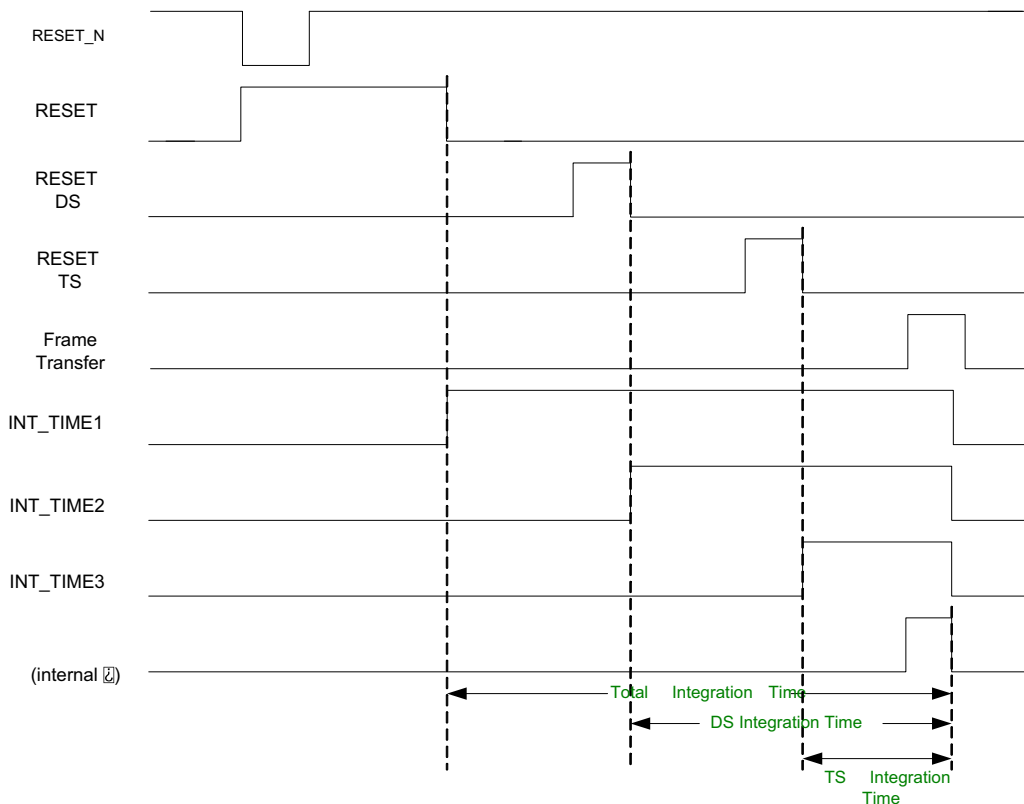

**Figure 15. Integration Timing in Master Mode**
In mastermode the integration time, the dual slope (DS) integration time, and triple slope (TS) integration time are set by the SPI settings. Figure 15 shows the integration timing and the relationship with the SPI registers. The timing concerning integration is expressed in number of lines read out. The timing is controlled by four SPI registers which need to be uploaded with the desired number of lines. This number is then compared with the line counter that keeps track of the number of lines that is read out.
The length of the integration time, the DS integration time and the TS integration time are indicated by 3 output pins: INT\_TIME\_1, INT\_TIME\_2 and INT\_TIME\_3. These outputs are high during the actual integration time. This is from the falling edge of the corresponding reset pulse to the falling edge of the internal pixel sample. Figure 16 illustrates this. The internal pixel sample rises at the moment defined by FT\_TIMER (see Figure 15) and the length of the pulse is  $4 * (12 * (\text{GRAN} < 1:0 > + 1) + 2)$ .